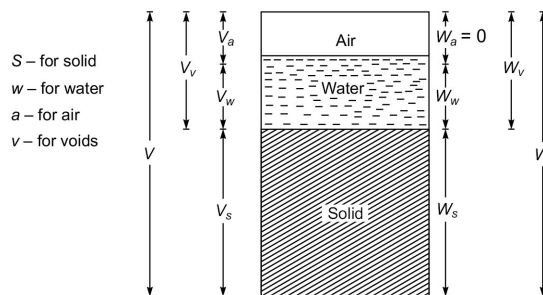

Fig. 12.1
* Soil mass structure: Bulk soil is random assembly of soil particles with air and water occupying the voids amongst the particles. Thus, soil mass is a three-phase system consisting of solid particles, water and air as shown in Fig. 12.1.